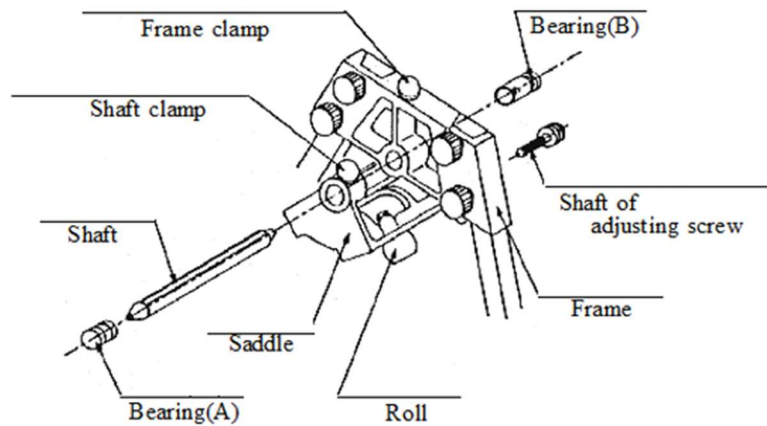

Figure2 Installation of frame to saddle
(2) Assembly of the Saddle and Frame (Figure 2)
- ① Loosen the shaft clamp and remove the shaft.
- ② With the frame clamp sufficiently loosened, insert the frame between the saddles as shown in Figure 2. Then reinsert the shaft and tighten it with the shaft clamp.
- ③ Adjust the position of the frame and tighten the frame clamp.